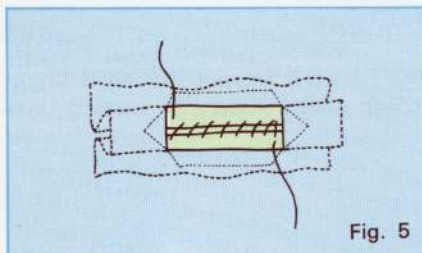

Fig. 5
4. Fold patch forming lips of buttonhole. Press and baste lips together. (Fig. 5)